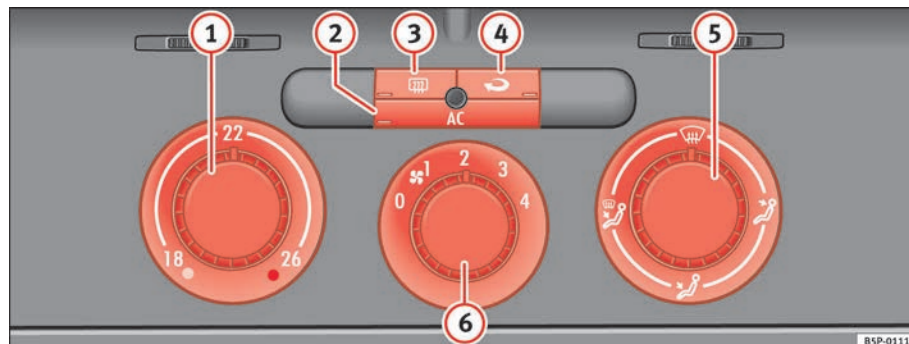

Fig. 130 On the dash panel: Climatic controls
- Turn the temperature selector ⇒ fig. 130 ① clockwise to select the required temperature.